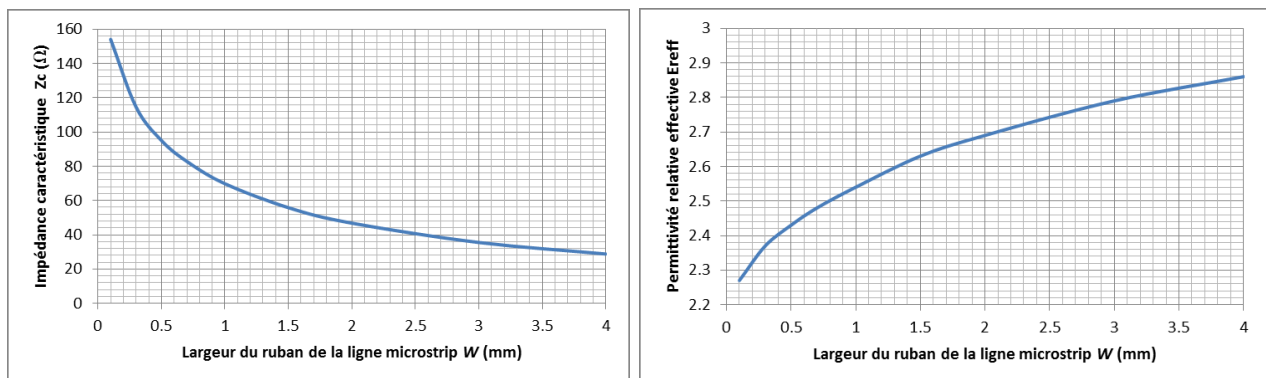

Figure 2: (a) characteristic impedance Z_c and effective relative permittivity ϵ_{reff} of the considered microstrip line as a function of strip width W
- The characteristic impedance of the microstrip line is shown in Figure 2(a). Explain the behaviour of Z_c as a function of the strip width W .
- f) The effective relative permittivity ϵ_{reff} of the transmission line is shown in Figure 2(b). Explain the behaviour ϵ_{reff} as a function of the strip width W .
- g) From Figure 2, deduce the width of the signal strip W .
- h) From Figure 2, determine the value of the effective relative permittivity ϵ_{reff} .